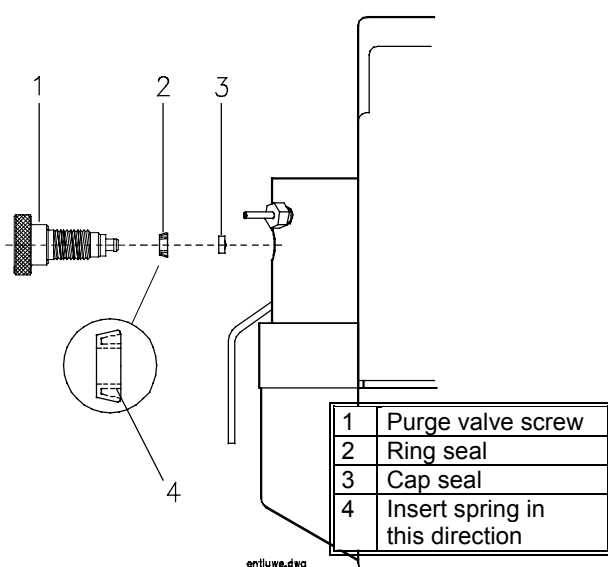

Fig. 20: Removing the purge valve screw
- Place the new ring seal (Part no.: 2266.0311) onto the purge valve screw. Insert in the correct direction (see fig. 20).